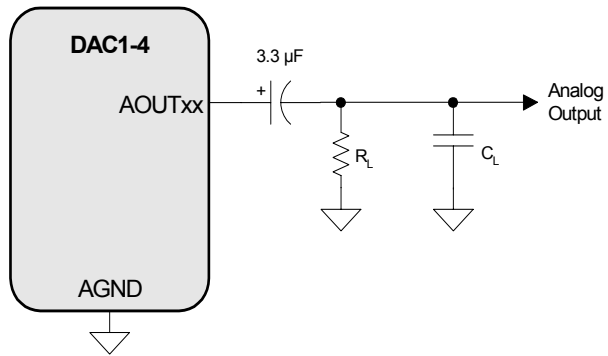

Figure 3. Output Test Circuit for Maximum Load
12. Guaranteed by design. See Figure 3. R_L and C_L reflect the recommended minimum resistance and maximum capacitance required for the internal op-amp's stability and signal integrity. In this circuit topology, C_L will effectively move the dominant pole of the two-pole amp in the output stage. Increasing this value beyond the recommended 100 pF can cause the internal op-amp to become unstable. See "External Filters" on page 49 for a recommended output filter.